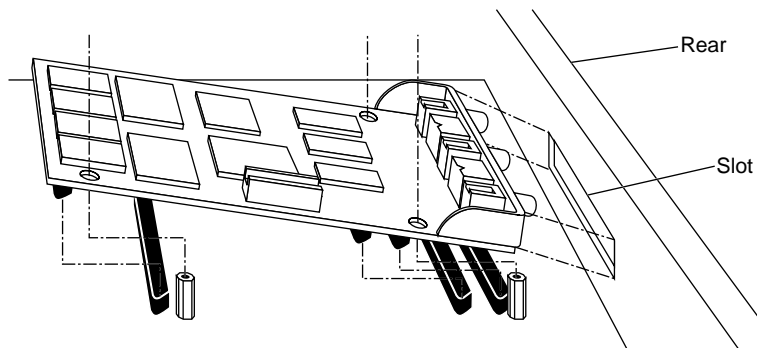

Figure 19 Inserting the GIO board's I/O connector through the backplane
- Lower the GIO option board over the graphics board, inserting the GIO board's I/O connector through the open slot on the rear of the workstation, as shown in Figure 19.